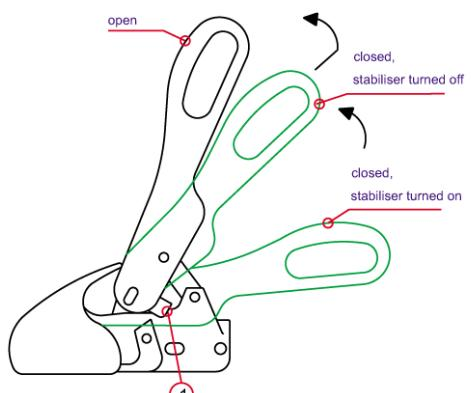

Fig. 6: turn stabiliser off
Pull the operating lever slowly upwards in order to turn off the stabiliser (Fig. 6).
Disconnect the lighting plug and contact-breaking cable, turn off stabiliser (Fig. 6), simultaneously pull back and lift the operating lever (Fig. 6) such that the side securing lugs (1) swing over the securing surfaces and the operating lever can be moved to the open position. The trailer can now be uncoupled from the towing vehicle with the aid of a jockey wheel.